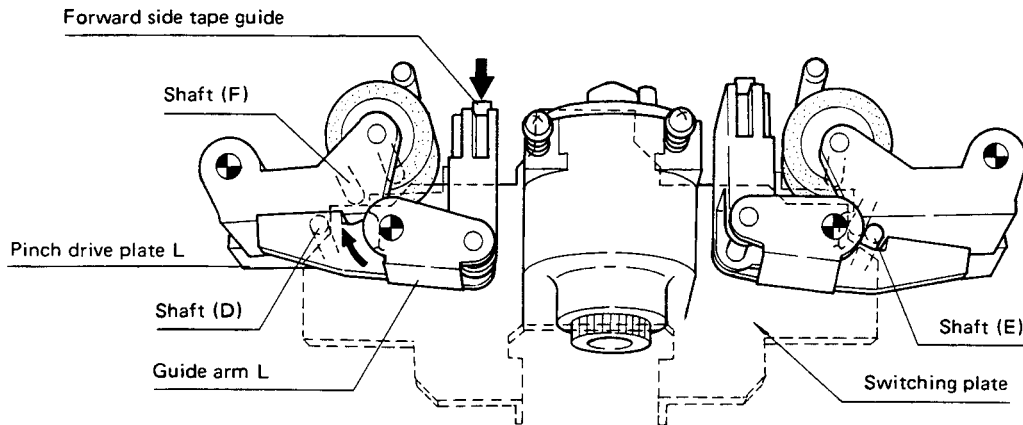

Fig. 1-10 Reverse play operation (2)
and the FORWARD side guide being lowered to a position where it does not make contact with the tape. At the same time, the front edge of the switching plate forces shaft (F) on pinch drive plate L upwards to press the REVERSE side pinch roller against the capstan (see Fig. 1-10).